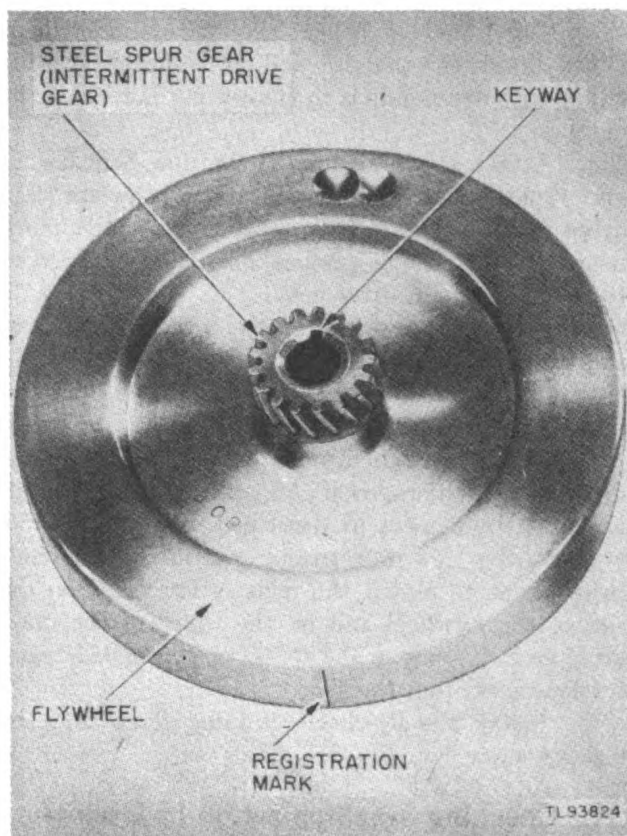

Figure 117. Rear face of flywheel showing steel spur gear.
52. Replacing Steel Spur Gear (Intermittent Drive Gear) (fig. 117)